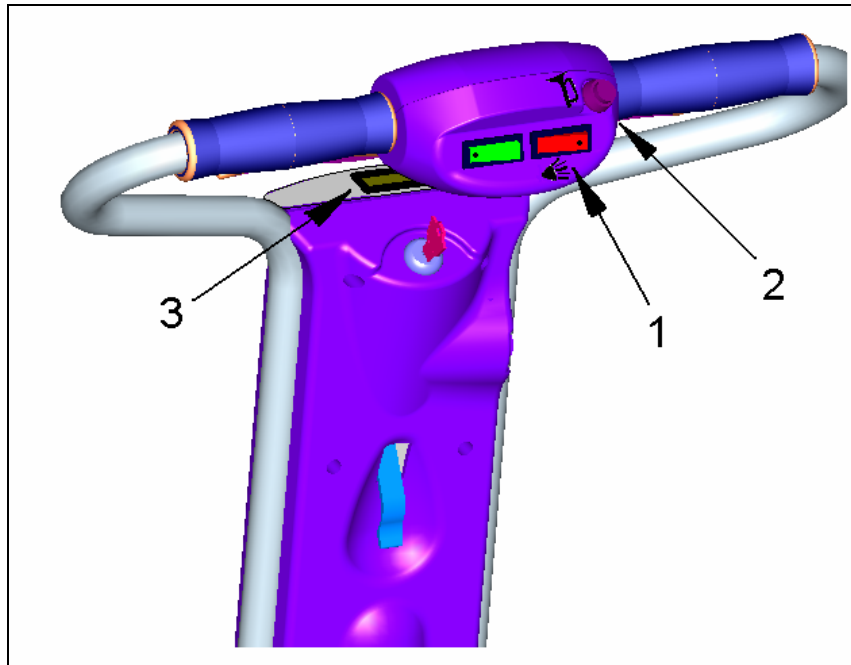

Figure 12
See **figure 12**: To switch the headlight ON and OFF, use the red switch (1) on the right hand side of dashboard close to the handle.
See **figure 12**: To use the horn press the horn button (2), if you release the button the horn will stop sounding.
See **figure 12**: The battery discharge indication (3) is part of the dashboard of your Caddy scooter. It consists of four rectangular lights, the light for the ON position is not part of the battery discharge indication.